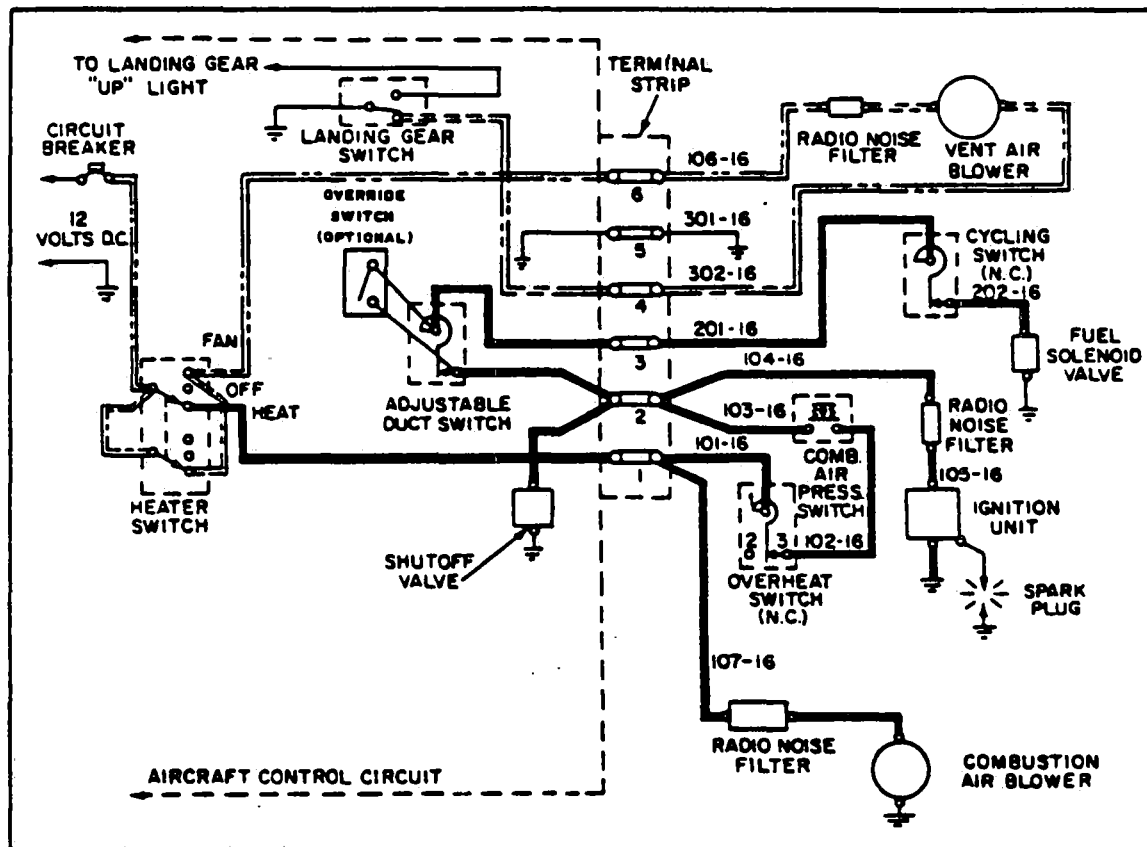

Figure 13-21. Starting Power Circuit
- a. With the HEATER SWITCH in the HEAT position, electrical continuity should be present at the following locations. (Refer to Figure 13-21.)